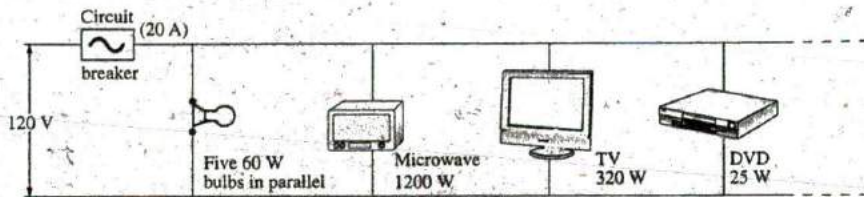

FIG. 6.91
22. A portion of a residential service to a home is depicted in Fig. 6.91.
- Determine the power delivered by the source. How does it compare to the sum of the wattage ratings appearing in Fig. 6.91?